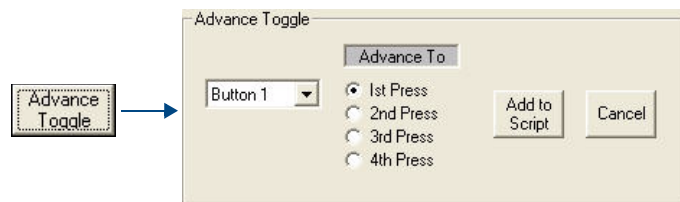

FIG. 108 Advance Toggle window
1. Click the **Advance Toggle** button in the Command Bar to open the *Advance Toggle* window (FIG. 108).